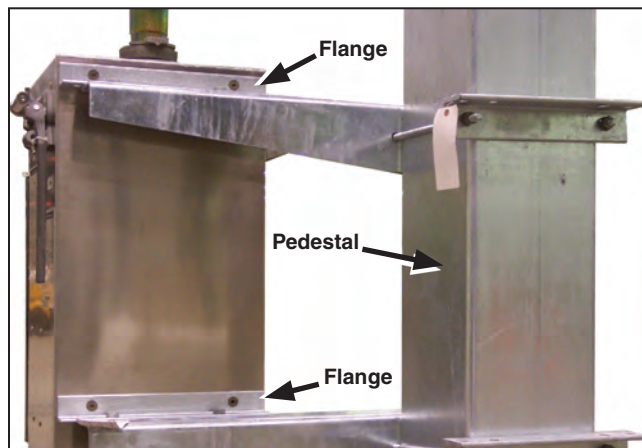

Figure 32. Install the operator mounting brackets.
- Align the upper operator brackets with the marks and bolt them to the pedestal using two $\frac{5}{8}$ -inch galvanized steel threaded rods, washers, and nuts provided. Tighten the nuts on the threaded rod. See Figure 32.